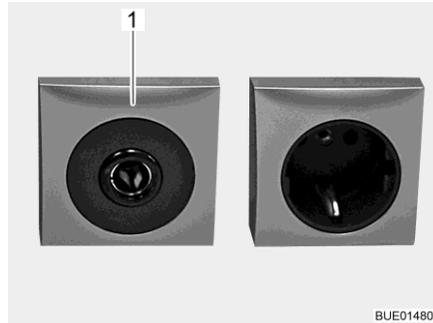

Fig. 201 12 V/10 A socket
- ▷ Only connect devices with a maximum of 10 A to the sockets (Fig. 201,1) of the 12 V power supply.